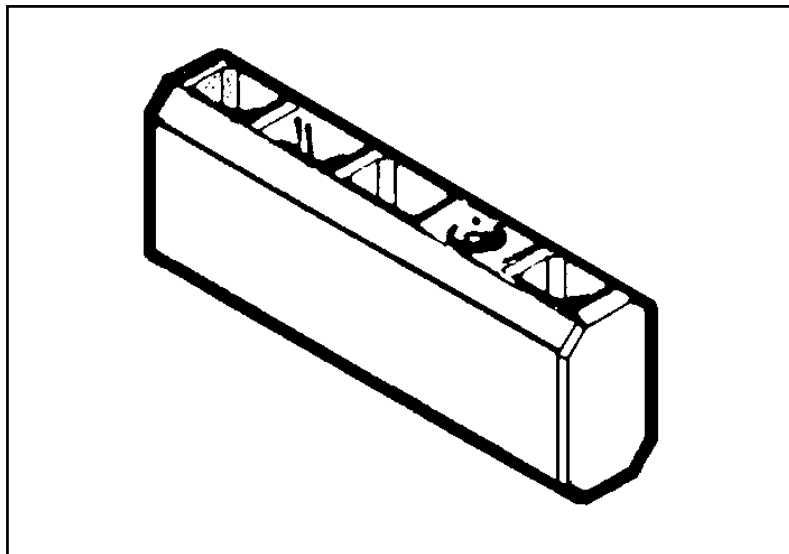

Figure F-4. Bracket adapter.
STEP 2: Install the bracket adapter (Figure F-4). The bracket adapter provides compatibility between the aiming light and the mounting brackets used on the M2, M60, and M136 AT4 weapons.